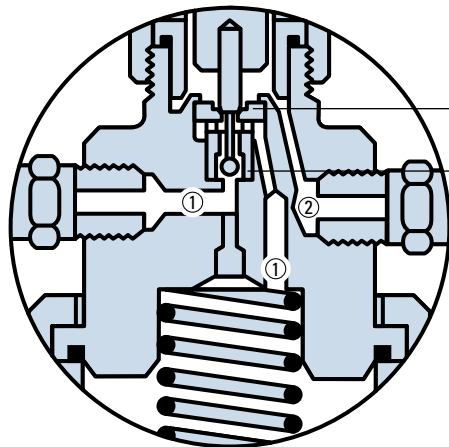

Figure 8
See Figure 8. With the pilot valve de-energized, high side pressure ① is permitted to flow through the lower pilot port at the same time the upper pilot port is closed to suction ②. High side pressure ① built on top of the piston moves the piston-seat assembly down to evenly split the flow between the two condensers. The piston-seat assembly is held in place by a plate located in the Condenser A connection. This plate is designed to limit restriction through that port. With the upper pilot port closed, there is no high to low side bleed and no resulting capacity loss with the system in the two condenser mode.